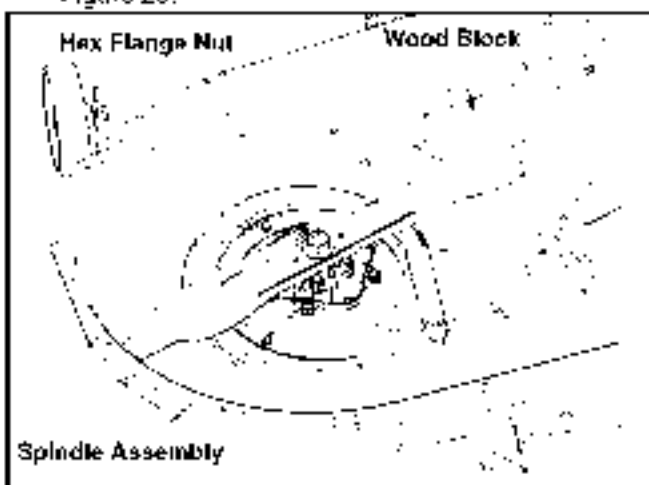

Figure 23
- Place a block of wood between the center deck housing battle and the cutting blade to act as a stabilizer. See Figure 23.
- Use a 15/16" wrench to remove the hex flange nut that secures the blade to the spindle assembly. See Figure 23.